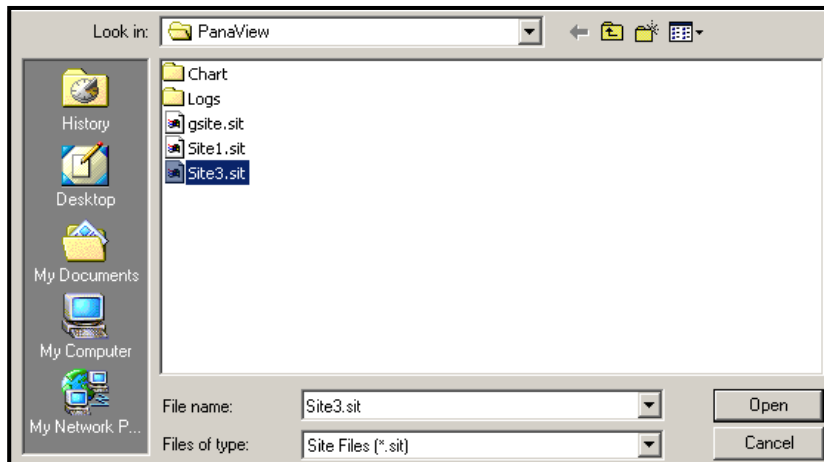

Figure 31: Site File Selection
2. Then click on the *Save Site to Meter* button. A screen opens similar to Figure 31 below.
3. The *Site File Selection* window (Figure 31 on page 100) opens. Highlight a site with the desired settings, and click [Open]. PanaView saves the site in the meter with the new name and the desired settings.
3. The *Site File Selection* window (see Figure 31 on page 100) opens. Enter the desired site name (now with a .prt suffix) and click [Save]. PanaView displays a text version of the site, as shown in Figure 33 below.